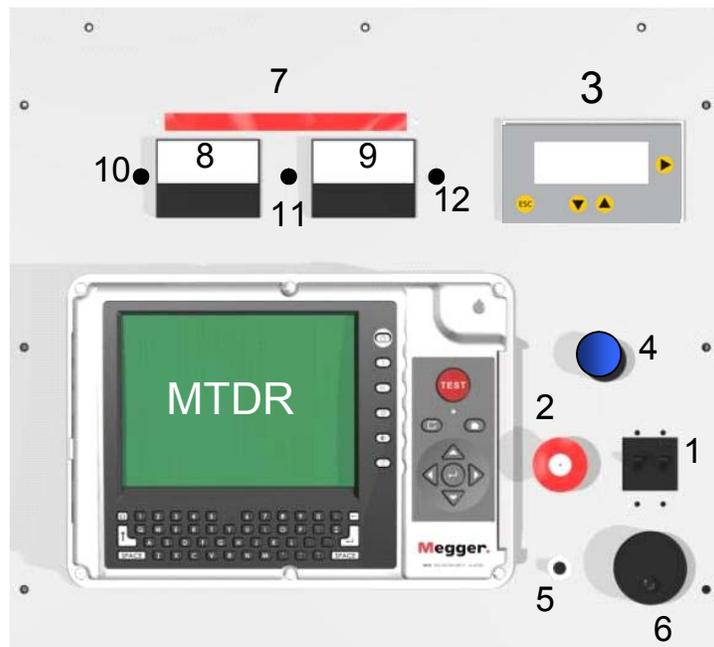

Figure 1-1. Top Panel Controls
**3.2.10 Connect the Input Power Cord.** Before making this connection, Ensure the Input Power Source meets the requirements as listed in Section 3.2.2 and Specifications Section 8. Also make sure that the ON/OFF switch (Figure 1-1, No. 1) is in the OFF position. Connect the input power cable to the PFL40A first, then to the power source.